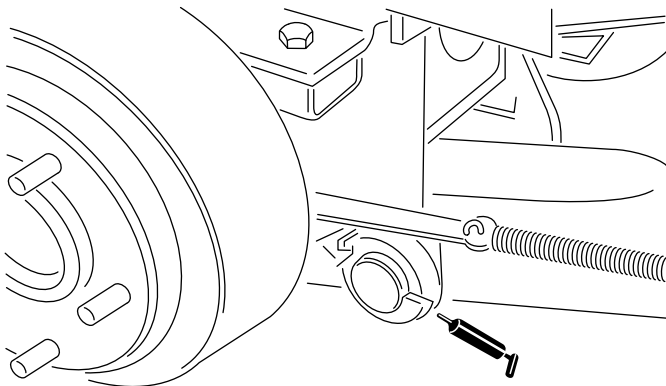

Figure 18
- Lift arm pivots, rear (2) (Figure 18)